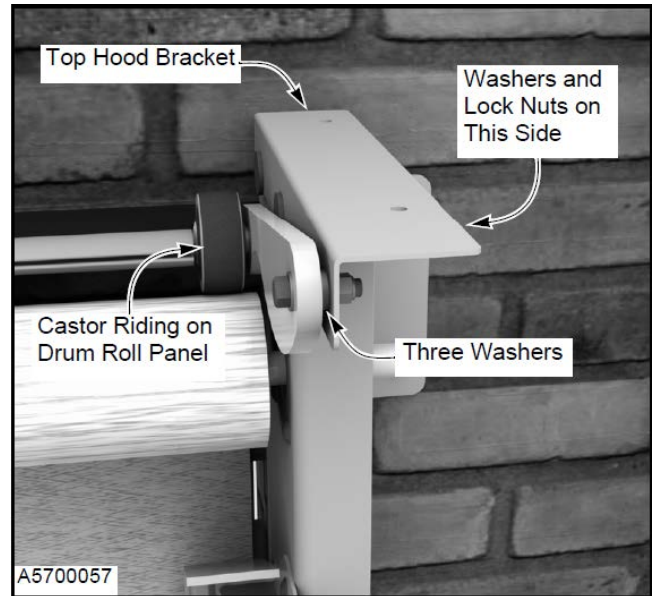

Figure 26
2. Install the top seal assembly to the top hood brackets using a  $\frac{3}{8}$ -16 x 1.50 hex head cap screw, five  $\frac{3}{8}$ -in. washers, and a  $\frac{3}{8}$ -in. lock nut at each end. Use three of the washers between the top hood bracket and lifting arm and one under each piece of hardware. (See Figure 26)